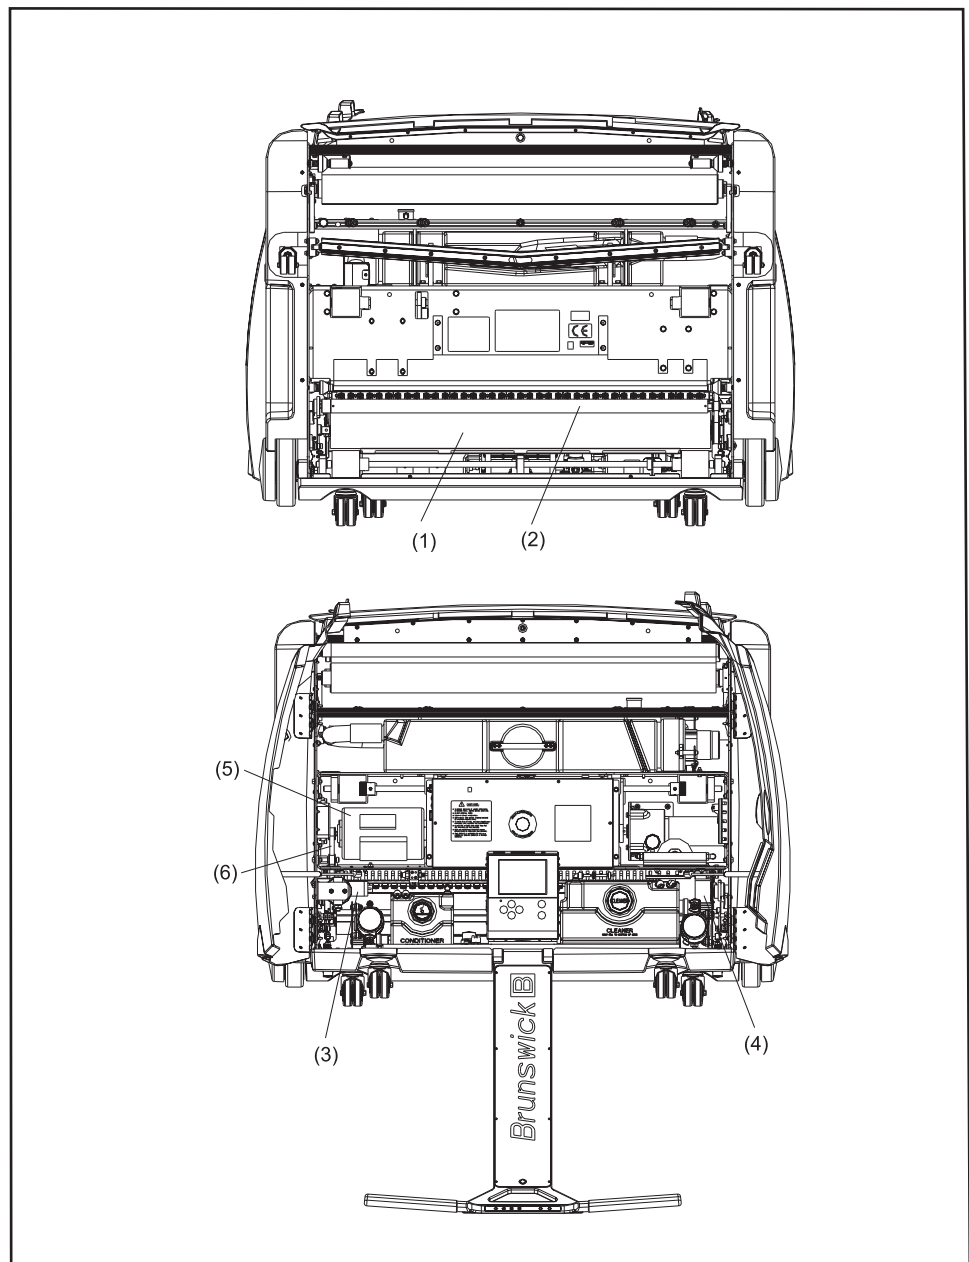

Figure 2-7. Buffing System
1. The **buffer lifting** motor lowers the **buffer brush** to the lane surface and the **buffer drive motor** rotates the **buffer brush** in the direction of forward machine travel (clockwise, when viewed from the right side of the brush assembly) blending the injected conditioner lengthwise on the surface of the lane. Refer to Figure 2-7.
2. The **dispersion roller** rotates in the same direction of the buffer brush, contacting only the buffer brush and blending the conditioner amongst the bristles through side-to-side oscillation. Refer to Figure 2-7.